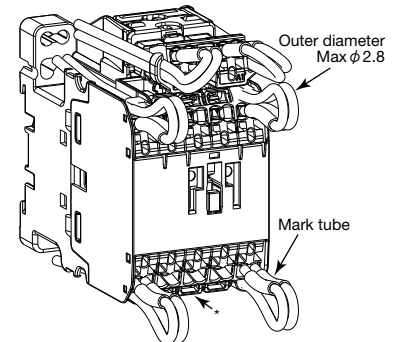

Fig.8
- May put the cable tie in the hole of * Fig. 8 if you do not adding the strong power. We may use the hole of * Fig. 8 with other products and parts.